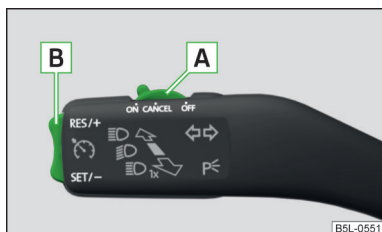

Fig. 124
➤ Move switch » Fig. 124 into the **ON** position.
➤ Move switch » Fig. 124 into the **OFF** position.
- Push the rocker button into the **SET/-** » Fig. 124 on page 148 position.
➤ Push the rocker button into the **RES/+** » Fig. 124 on page 148 position.
The stored speed can be **reduced** by pushing the rocker switch into the **SET/-** » Fig. 124 on page 148 position.
The cruise control system can be **temporarily deactivated** by pushing the switch » Fig. 124 on page 148 into the spring-mounted **CANCEL** position or by depressing the brake or clutch pedal.